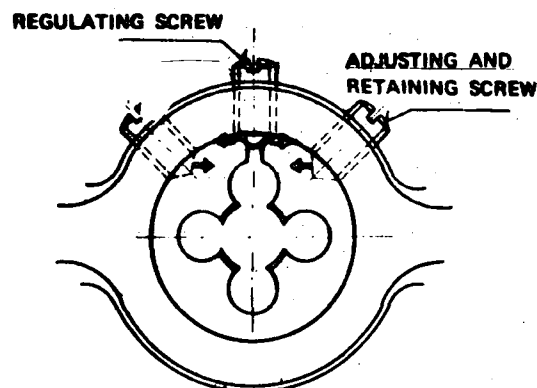

Fig. 3
4th Step - Fit the die (Fig. 3).
2. Make the opening of the die coincide with the regulating screw (Fig. 3).
3. The notches or perforations on the outer edge of the die should match the retaining screws on the stock (Fig. 3).